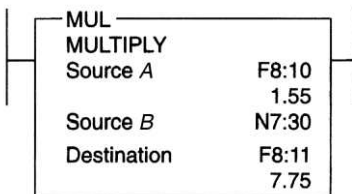

Figure 11-12 MUL instruction for question 17.
17. With reference to the MUL instruction of Figure 11-12, the value of the number stored at N7:30 is 17._____